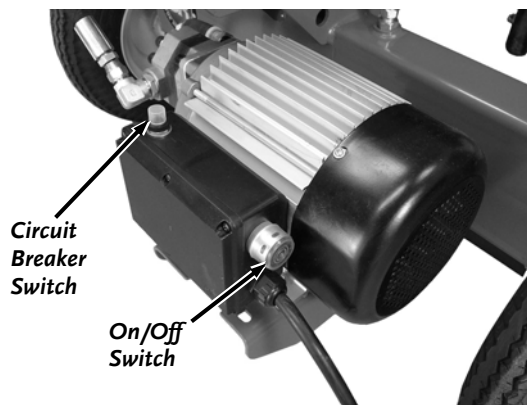

Figure 22
3. Push the On/Off Switch all the way in and then pull finger away to start the Motor (**Figure 22**).